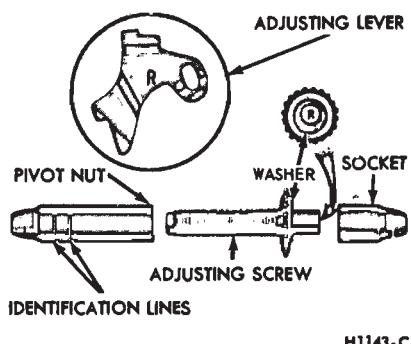

FIG. 9—Adjusting Screw and Lever Identification
Interchanging the brake shoe adjusting screw assemblies from one side of the vehicle to the other would cause the brake shoes to retract rather than expand each time the automatic adjusting mechanism operated. To prevent installation on the wrong side of the vehicle, the socket end of the adjusting screw is stamped with an R or L (Fig. 9). The adjusting pivot nuts can be distinguished by the number of grooves machined around the body of the nut. Two grooves on the nut indicate a right thread; one groove indicates a left thread.
11. Hook the cable hook into the hole in the adjusting lever. The adjusting levers are stamped with an R or L to indicate their installation on right or left brake assembly (Fig. 9).